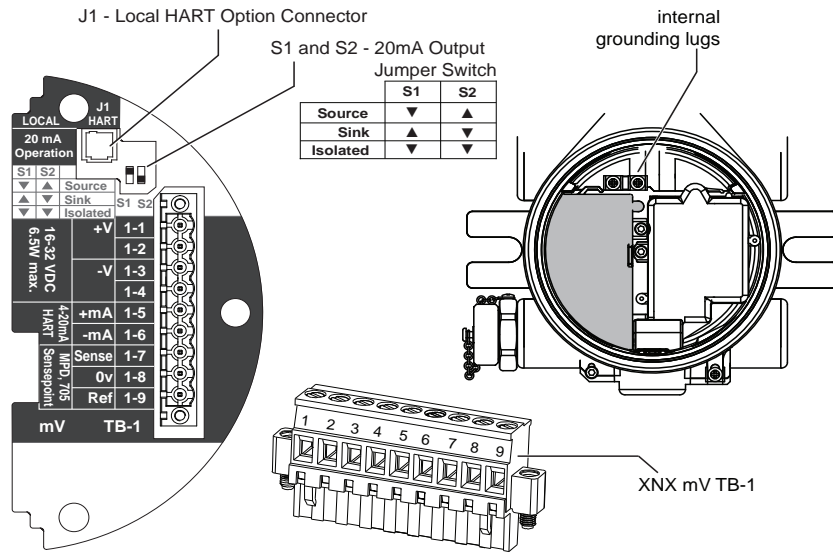

Figure 45. mV personality board terminal blocks and jumper switches.
3. Wire the pluggable terminal block as shown in Figure 45 then plug the connector into the back of the mV personality board. In remote mount MPD configurations, the 3 wires connecting the pluggable terminal block and the remote MPD must be routed through the supplied ferrite bead (Honeywell Analytics part no. 0060-1051, supplied in the accessory kit) as shown in Figure 48.